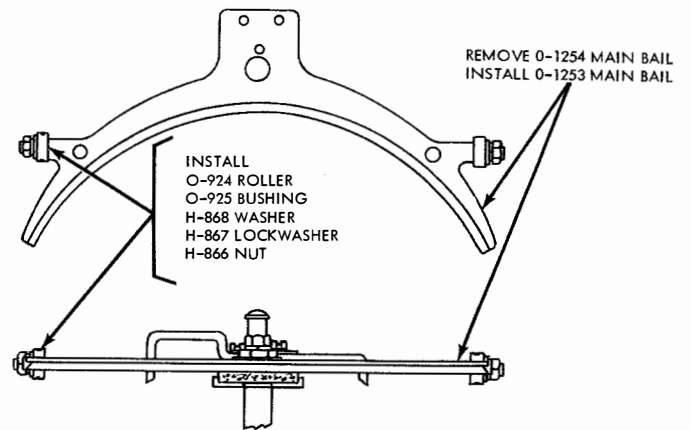

Figure 3-19. Parts Required for Changing Main Bail to 100 WPM (Experimental) Operation
9. Insert the O-1123 wick in the O-1122 locking lever spring and install the spring in place of the O-1121 locking lever spring. (See figure 3-19.)
10. Replace the O-1254 main bail with the O-1253 main bail. (See figure 3-19.)